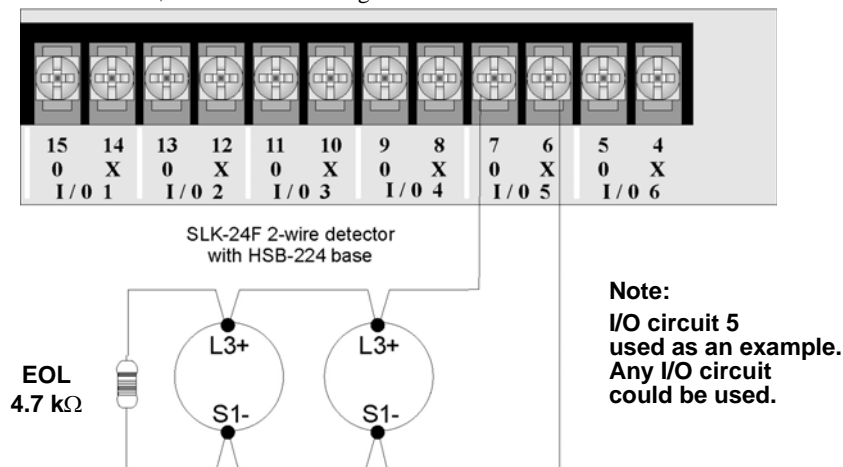
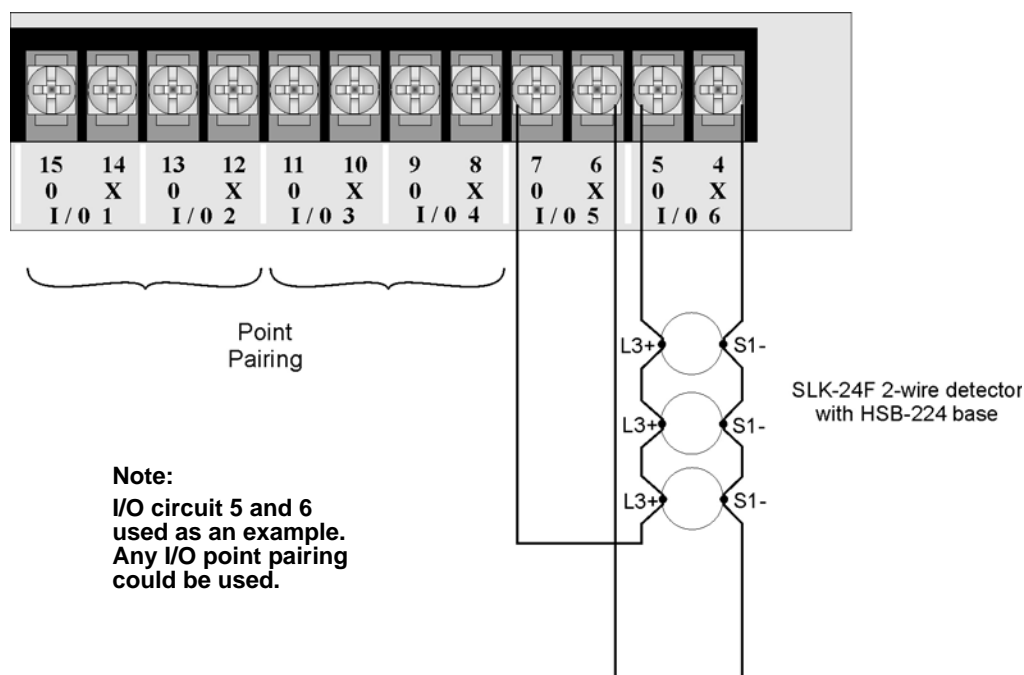

Figure 3.12 Two-Wire Class B Smoke Detector
Figure 3.13 Two-Wire Class A Smoke Detector Connections
Any compatible UL listed two-wire smoke detector can be used with the RPS-1000 panel (see “Compatible Devices” on page 1 for list of compatible smoke detectors). Figure 3.12 and Figure 3.13 illustrate how to connect a UL listed 2-wire detector to the control panel.
To install a Class B two-wire smoke detector, wire as shown in Figure 3.12.
To install a Class A two-wire smoke detector, wire as shown in Figure 3.13.
**NOTE:** In programming any point that uses multiple I/O circuits are always referred to as the lowest I/O circuit number used. For example, Figure 3.13 uses both I/O circuit 5 and 6, so in programming it would be referred to as point 5.
Any compatible UL listed four-wire smoke detector can be used with the RPS-1000 panel (see Appendix A for list of compatible smoke detectors). Figure 3.12 and Figure 3.13 illustrate how to connect a UL listed four-wire detector to the control panel.